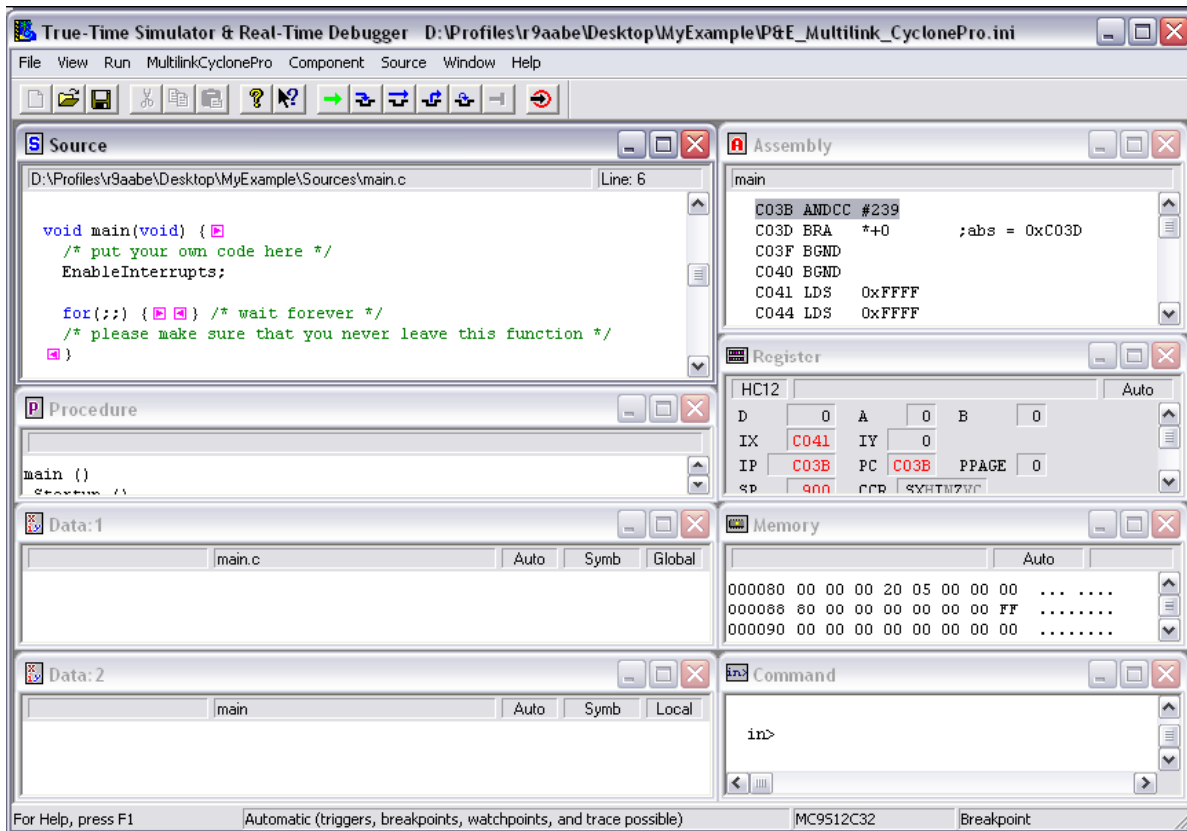

Figure 9. CodeWarrior Debugger Window
- d) Once the debugger is launched a window similar to Figure 9 will appear. The operation of the various sub windows is listed in Table 2 on the subsequent page. The configuration of sub-windows can be user configured and saved using File->Save Workspace